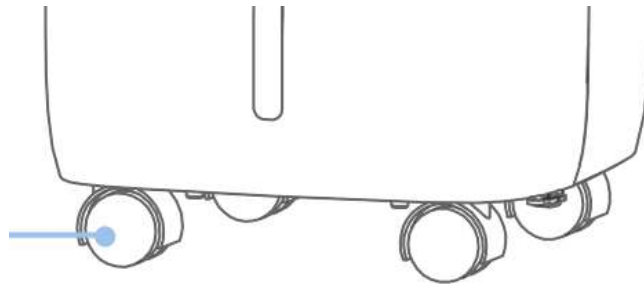

Fig. 1
4. Note: casters with skid are for the two front holes and casters without skid are for the two back holes at the bottom of the unit. (shown as figure.1)